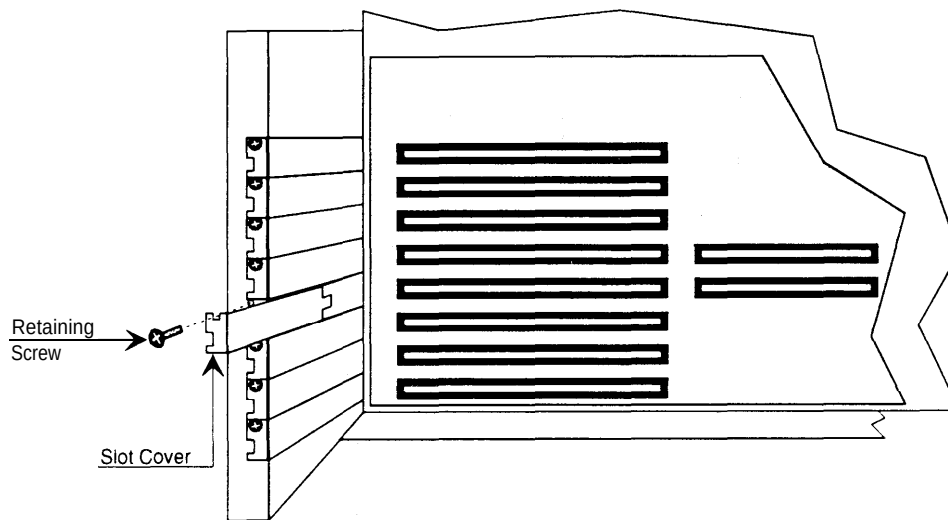

Figure 3-28. Removing Slot Cover
7. Remove the screw holding the slot cover in place and remove the slot cover as shown in Figure 3-28. (Save the slot cover for use if the board is removed.) When replacing or moving a board, the slot cover may already have been removed.